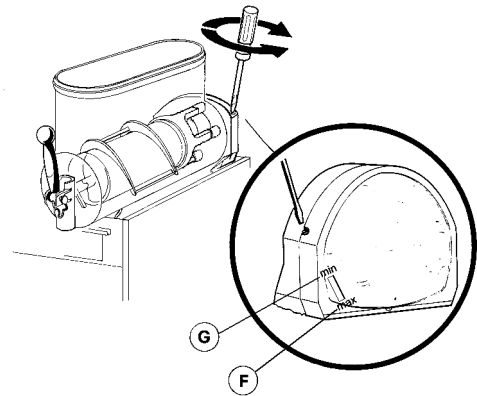

figure 6
- 1 - **Granita viscosity adjustment:** proper Granita viscosity is factory preset. To change the viscosity, if needed, use a standard screwdriver to turn the adjustment screw located in the rear wall of each container as follows (see figure 6):